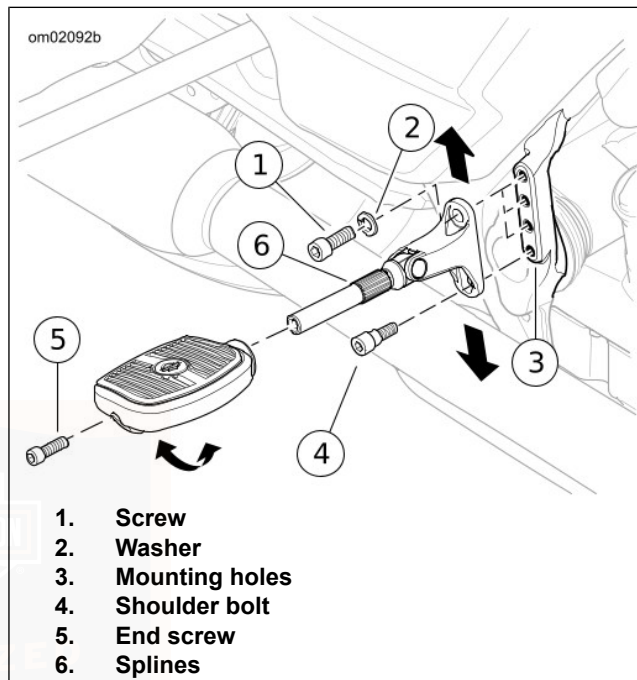

Figure 30. Passenger Footboards: FLHTKL
See Figure 30. If the bracket does not slide up or down, loosen but do not remove the lower shoulder bolt (4).
1. Remove the upper bracket screw (1), and washer (2).
1. See Figure 30. Remove the end screw (5).
3. Align the splines in the footboard to the mount splines (6) at your preferred angle. Press the footboard over the splines.